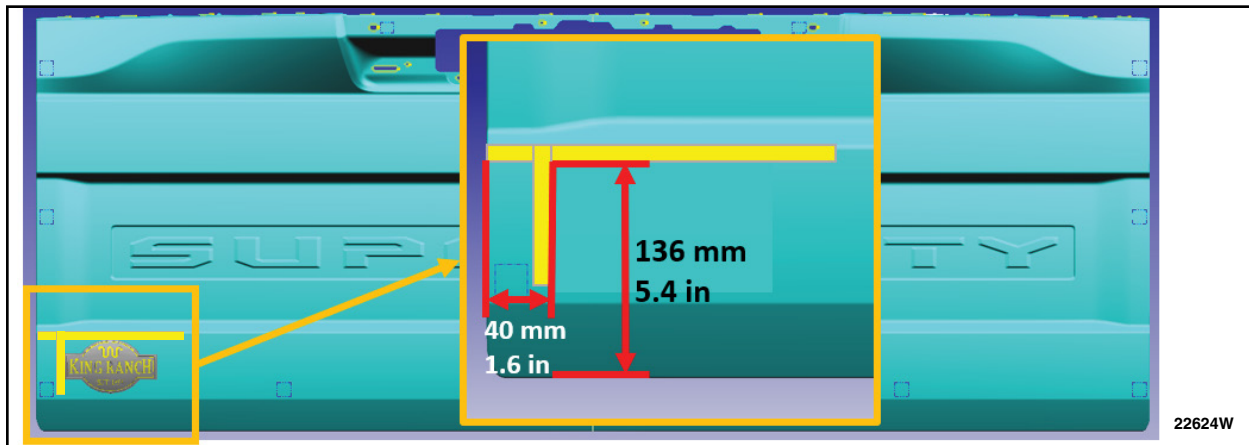

FIGURE 10
41. Measure and apply locating masking tape to the tailgate outer panel. See Figure 10.